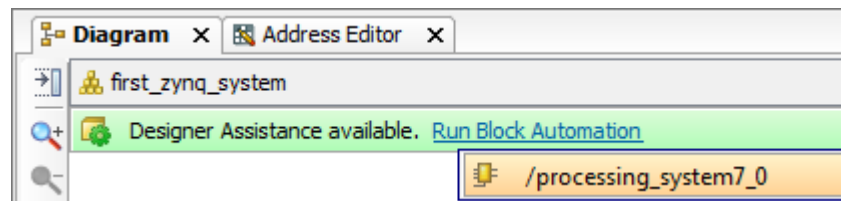

Figure 1.13: Run Block Automation - Processing System
- (e) Click the **Run Block Automation** option from the *Designer Assistance* message at the top of the Diagram window and select `/processing_system7_0`, as shown in Figure 1.13.